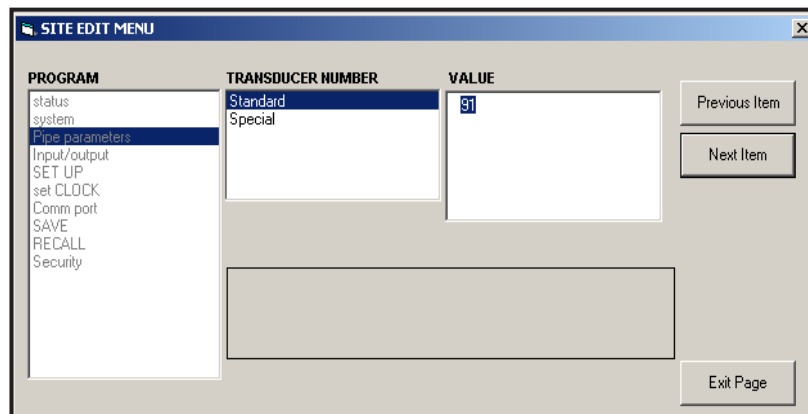

Figure 38: Pipe Parameters Option in Site Edit Menu
- a. Highlight and double-click on the desired option in the left pane. Figure 38 shows the first entry (Transducer Number) in the *Pipe parameters* option. The title above the center pane lists the current entry, while the center pane displays the available selections for that entry.